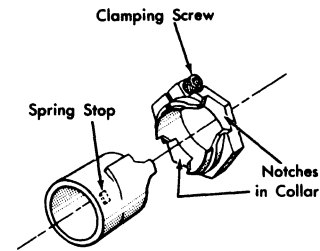

Figure 40. Clutch Sleeve and Collar
2. Install clutch collar and clutch sleeve. See that ear (on sleeve) that aligns with spring stop (Figure 40) engages the notch on collar nearest head of collar clamping screw.